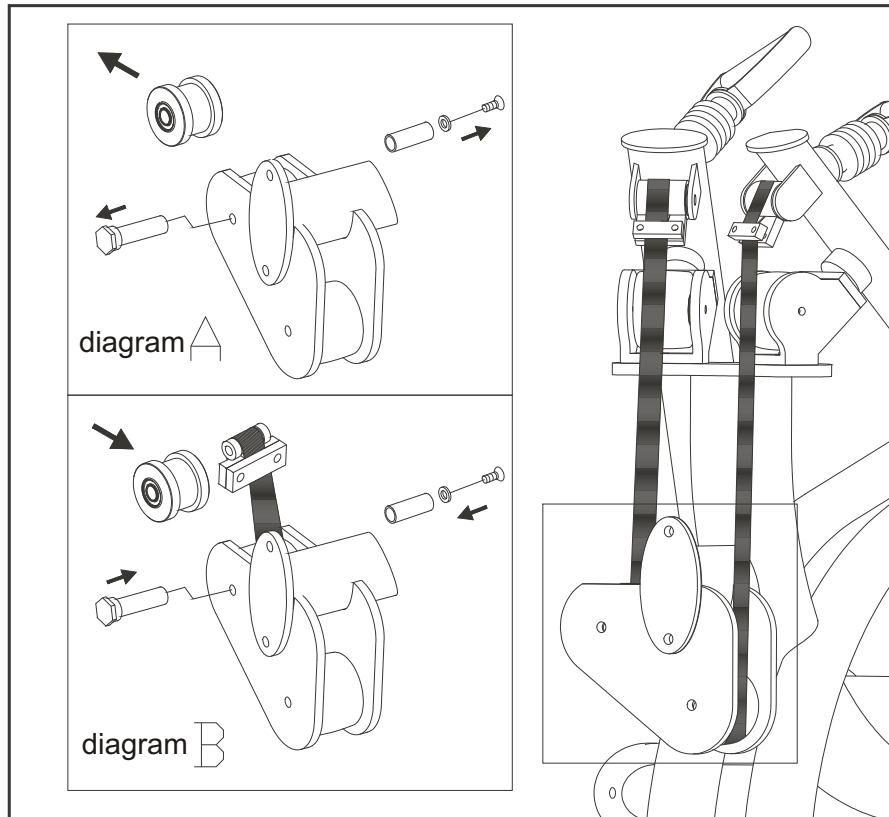

Fig.4-1
6. Take out the wheel as shown in diagram A. Pull the belt through the gap and put the wheel back in place. Then assemble the mechanism as shown in diagram B. (See Fig.4-1)